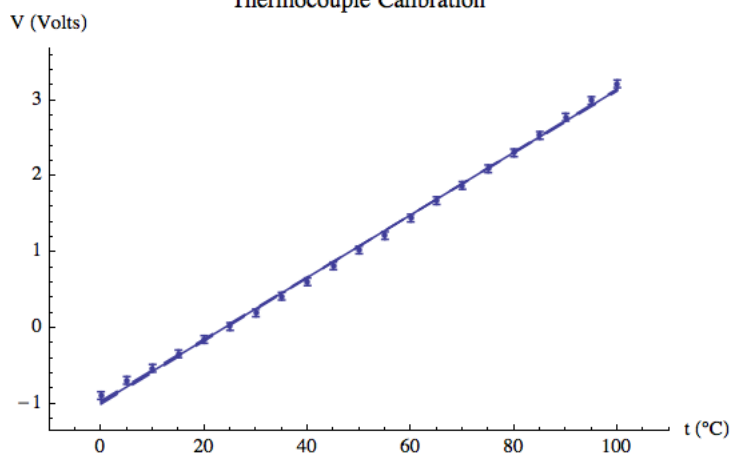

Figure 7
A thermocouple is a device that emits a voltage that depends on its temperature. Thermocouples are often used as thermometers. Figure 7 shows some student-collected data on calibrating a thermocouple that was presented by Bevington.³ The student assigned an uncertainty to the voltage, but not to the temperature. Also shown in the figure is the result of fitting the data to a straight line. The results of the fit were:
- Just from the numerical results of the fit and from Figure 7, is this a good fit to a reasonable model?